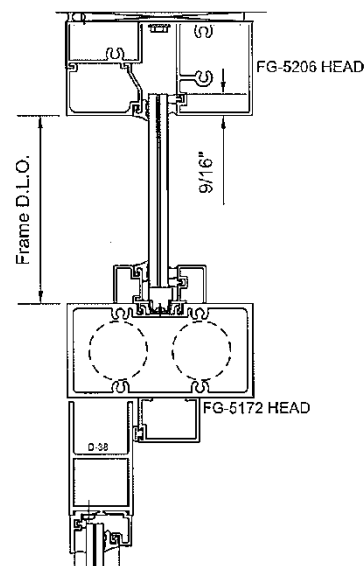

FIGURE 4
- Over head concealed closure - For transom glass height use Frame D.L.O. and add 1/8" as shown in Figure 4